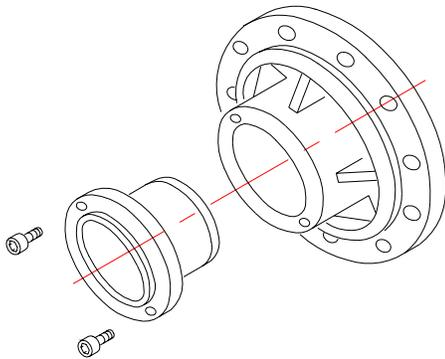

Fig. 29
- c) Remove the two bolts and using the extractor tool ease the bearing from the housing (Fig 29).